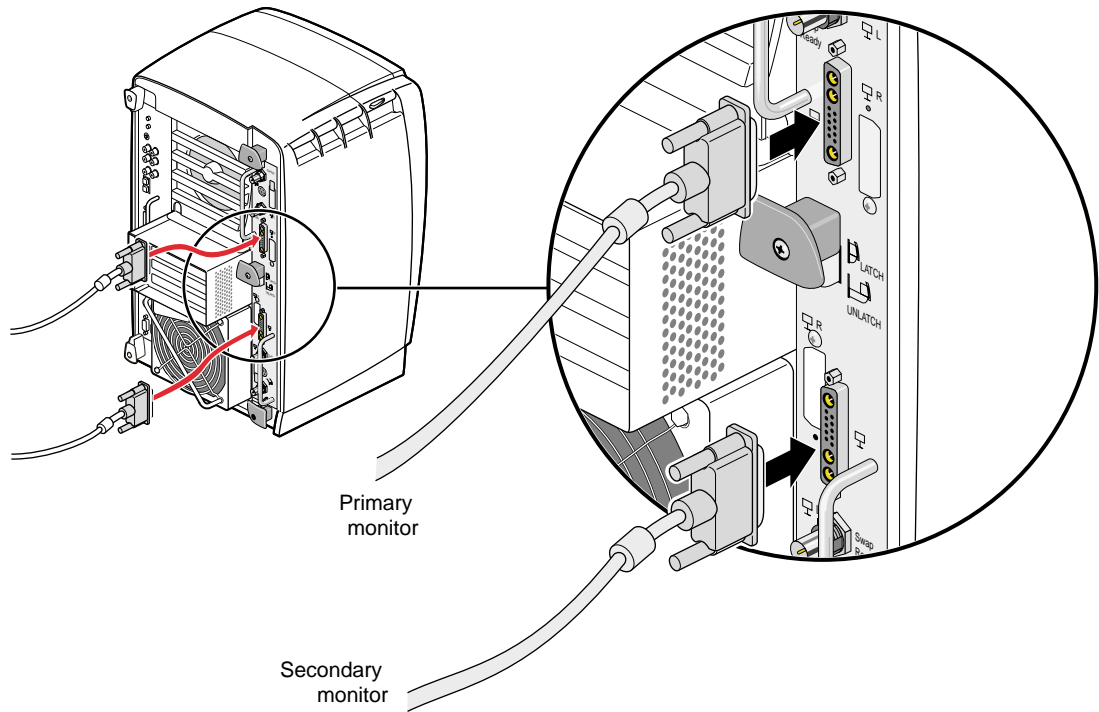

Figure 2-3 Connecting the Monitor Signal Cables
3. Connect the primary monitor signal cable to the primary graphics board set (in slots A and B), as shown in Figure 2-3. The primary graphics board set is toward the top of the Silicon Graphics Octane2 workstation.
4. Connect the secondary monitor signal cable to the secondary graphics board set (in slots C and D), as shown in Figure 2-3. The secondary graphics board set is toward the bottom of the Octane2 workstation.